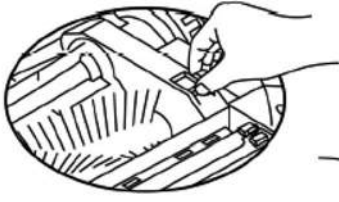

Figure 1
- 2) Force the locking bar forward and raise the cover by right thumb, and then raise rod of the mid cleaning brush by your left hand (Refer to Figure 1 and Figure 2).